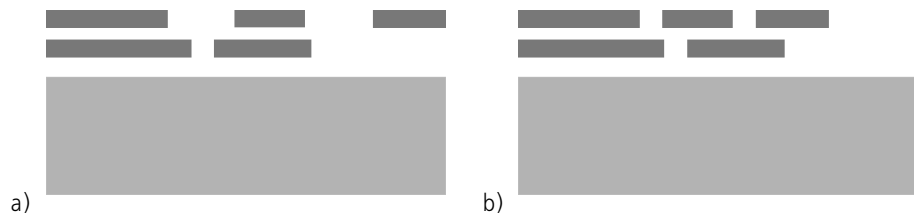

Fig. 9.7. Alignment of the header paragraph: a) to entire width b) to the left.
18. Select the **Left** option in the **Alignment** group. Selection of the **Entire Width** option is not recommended, as it usually results in disproportional increase of spaces between the header words, the paragraph of which consists of several lines (Fig. 9.7).